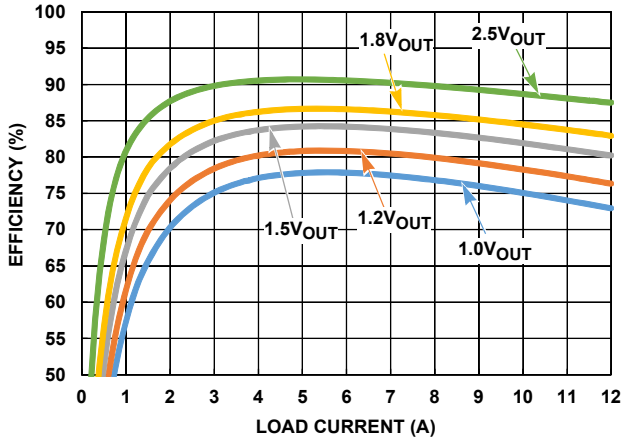

FIGURE 2. EFFICIENCY vs LOAD vs OUTPUT VOLTAGE
The efficiency data presented in Figures 2 through 17 was taken with the ISL70002SEHEVAL1Z immersed in a temperature-calibrated liquid bath to ensure the notated IC case temperature.
**ISL70002SEHEVAL1Z Efficiency Curves** The efficiency data presented in Figures 2 through 17 was taken with the ISL70002SEHEVAL1Z immersed in a temperature-calibrated liquid bath to ensure the notated IC case temperature. (Continued)